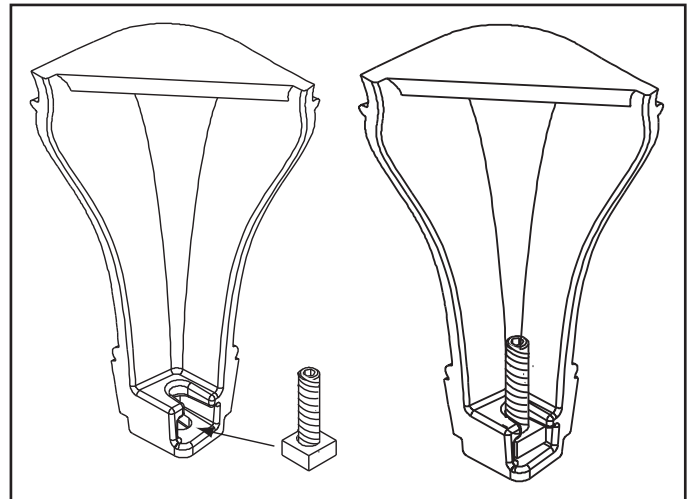

Figure 22.3
**NOTE:** If installing a floor installation of an outside air kit on a Step Top model with a pedestal assembly you must attach the enclosed cover plate with 4 screws to the back of the appliance. Other wise you may discard this piece (**Figure 22.3 on page 22**).
9. Slide Allen bolt/nut assemblies into slots of two of the legs with the nuts on the bottom (**Figure 22.3**).